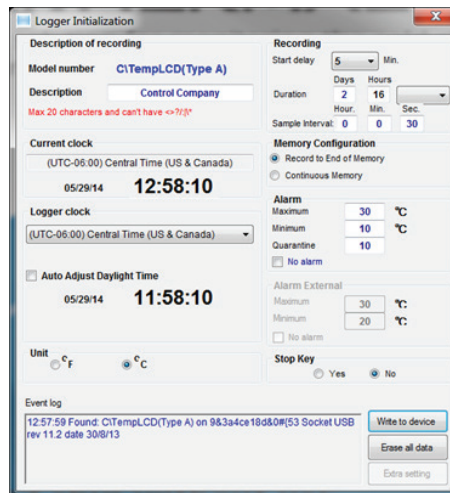

FIGURE 6
- 2.1. Logger initialization – main screen to set up Data-Logger (Fig. 6)